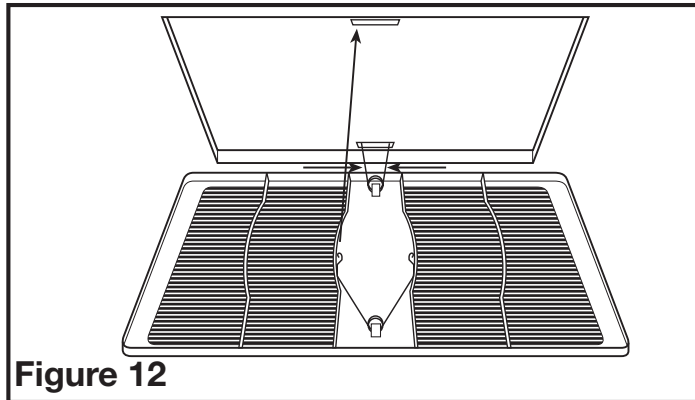

Figure 12
- 5a. **STANDARD AND HUMIDITY SENSING MODELS:** Install the grill by squeezing the two ends of the springs together and installing them up into the slots on the fan's housing. Push the grill up into position (**Figure 12**).